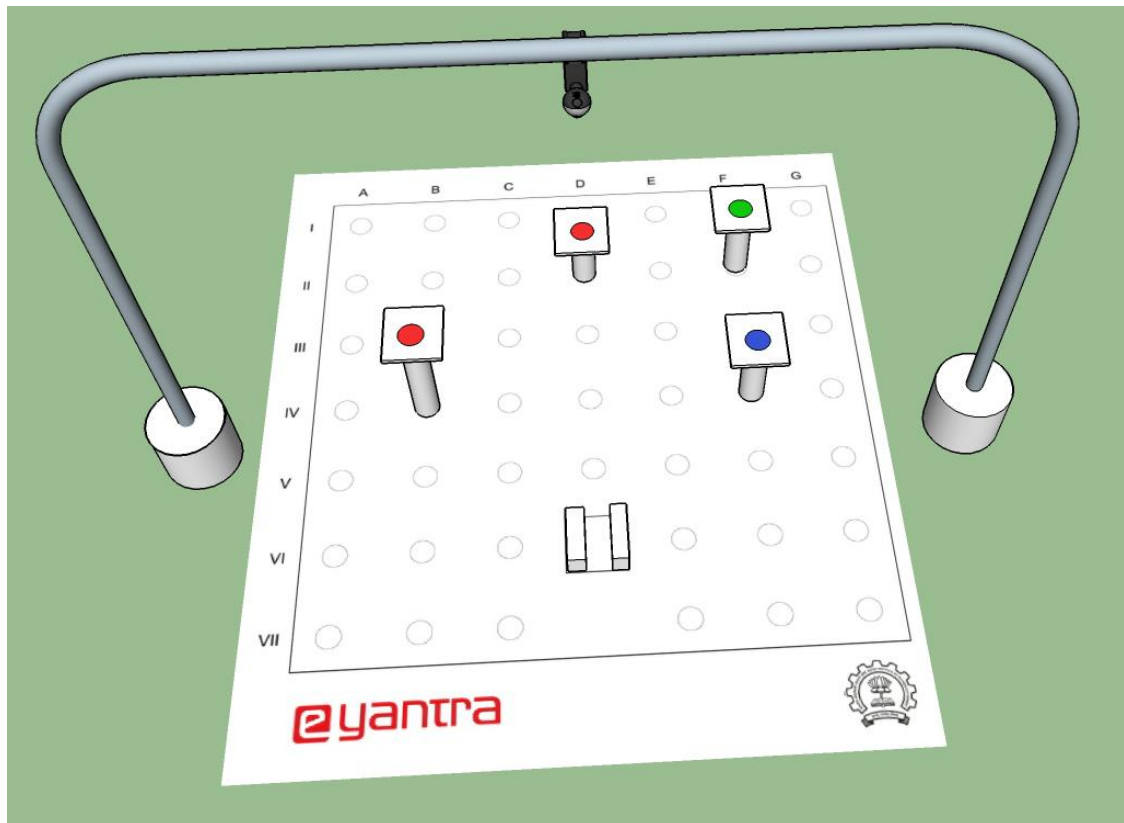

Figure 6: Camera Setup Example
- Team can design any arrangement using their creativity to mount the camera, for example, hanging from ceiling, constructing a frame etc. An example setup is shown in Figure 6.
As shown in Figure 6, place all the Plants in the arena according to Configuration Table and mount the camera.